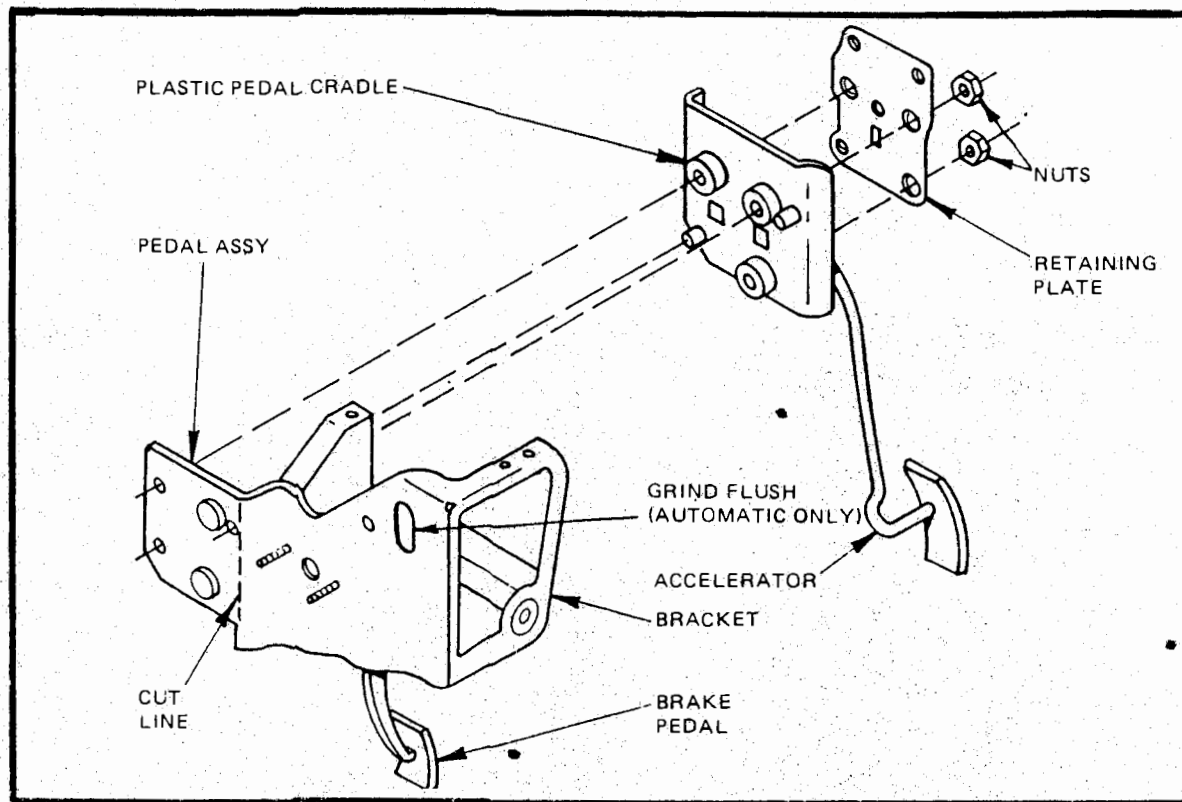

Figure 7
The pedal assembly must be modified as follows: Fig. 7.
- Remove the 2 nuts holding the accelerator pedal, retaining plate and plastic pedal cradle to bracket. (Figure 7) Cut bracket as indicated. Save all parts for later use.